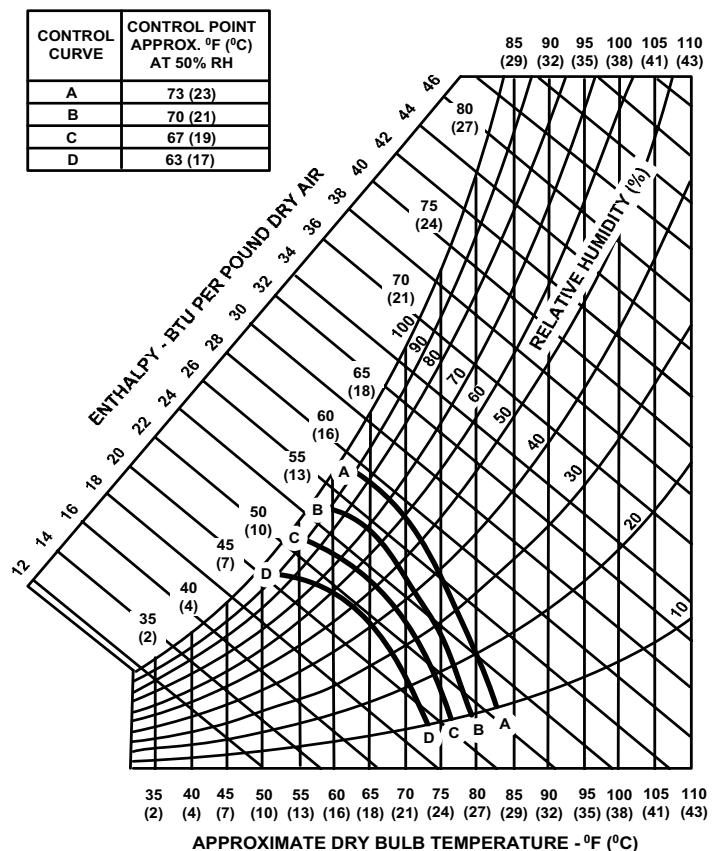

FIGURE 7 - ENTHALPY SETPOINT ADJUSTMENT
The enthalpy set point may now be set by selecting the desired setpoint shown in the Enthalpy Setpoint Adjustment Figure 7. Adjust as follows:
- For a single enthalpy operation carefully turn the set point adjusting screw (found on the damper control module) to the "A", "B", "C" or "D" setting corresponding to the lettered curve of the Enthalpy Setpoint Adjustment Figure 7.